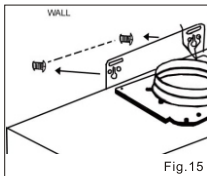

Fig.15
- b. Align hood-mounting bracket to the screws on the wall and hook into place as Fig.15, Tighten screws to secure hood to the wall.